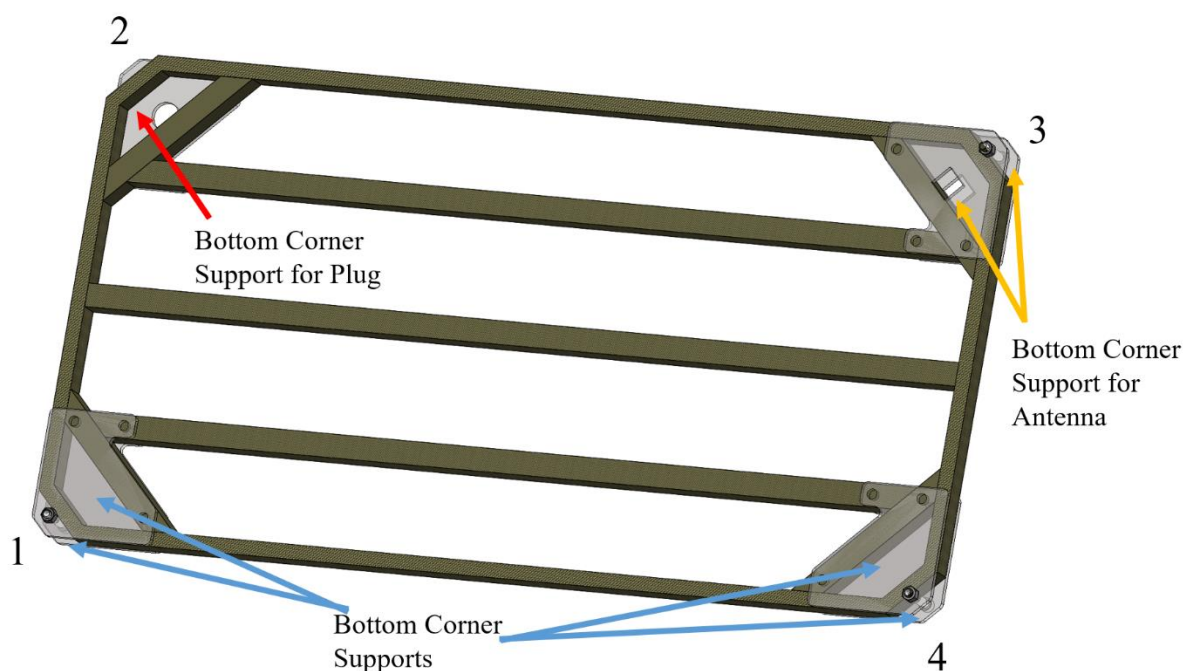

Figure 10.2
- Epoxy the Bottom Corner Supports (PN THBC008), the Bottom Corner Support for Plug (PN THBC009), and Corner Supports for Antenna (PN THBC010) to the Large Coil. Corners 1 and 4 as shown in Figure 10.2 will each have two Bottom Corner Supports (THBC008) epoxied to them, while corner two will have the one Bottom Corner Support for Plug (THBC009) epoxied to it, and corner three will have the two Bottom Corner Supports for Antenna (THB010) epoxied to it. One 2" 3/8"-16 bolt (PN OUTS002) and one 3/8"-16 nut (PN OUTS004) will be used to secure each outside corner of the two Supports epoxied to each other for corners 1, 3, and 4. Corner 2 will only have the Corner Support for Plug epoxied to it as shown in Figure 10.2. Ensure that the Bottom Corner Support for Plug is epoxied to the back of the coil as it is shown in the configuration below, with the nuts being on the opposite side of the coil from the Corner Support for Plug. When the Corner Support for Plug is bolted in later in the process, the bolt heads should be resting on its surface. Note that this bolt head configuration is different from that of other coils.